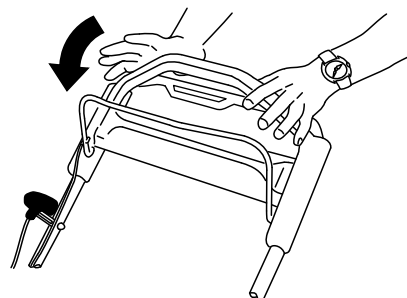

Figure 22
Release the blade-control bar (Figure 22).
- If the rear-discharge plug is not installed, grip it by the handle, raise the rear door, and insert it into the rear-discharge chute until the latch locks into place; refer to Figure 22.